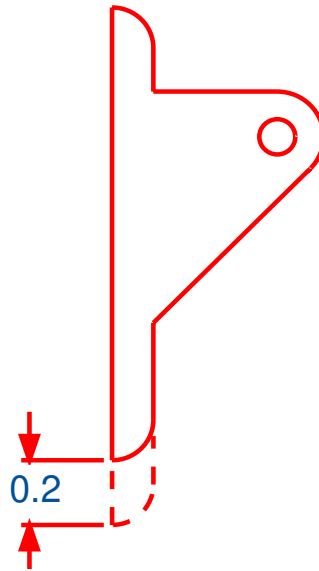

Figure 1-24. Card Ejector Geometry
*If the scroll bars are not visible, you can display them by choosing the **Setup > Display Environment...** menu item, choosing **Show Scrolls** in the dialog box, and choosing **OK**. In the next steps, you lengthen the tab. Refer to Figure 1-24.*